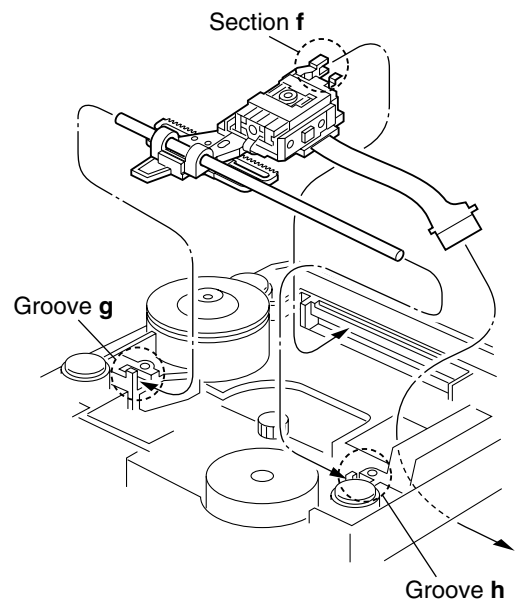

Fig.7
■ Attaching the pickup unit (See Figs. 7 and 8.)